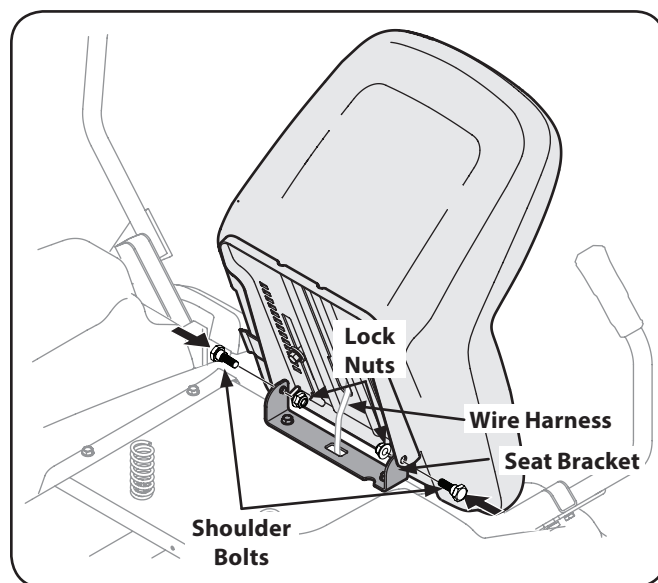

Figure 3-3
3. Rotate the seat into position and secure the seat into place with the previously removed shoulder bolts and lock nuts. Be careful not to crimp or damage the wire harness while installing the seat. See Figure 3-3.